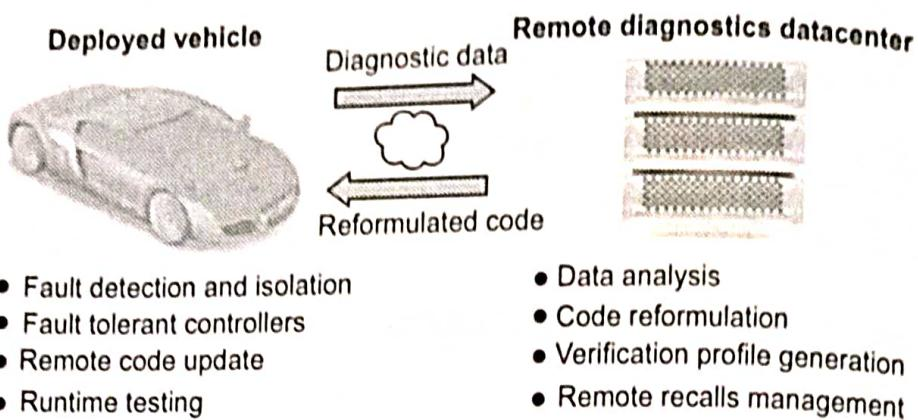

Fig. 4.7.4 Remote vehicle diagnostics solution
- Modern commercial vehicles support on board diagnostic standard. Next generation vehicles will have sophisticated on-board connectivity equipment, providing wireless network access to the vehicle for infotainment and other telematics services. Fig 4.7.4 shows remote vehicle diagnostics.